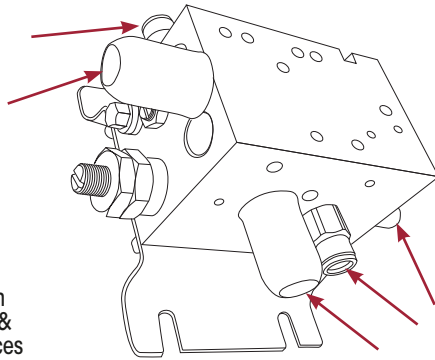

Figure 8: Check for Signs of Contamination
4. Release pressure again and remove hoses from LACV and inspect for signs of moisture, dirt, dust or sludge. Damage caused by internal contamination is irreparable. The cause of the contamination will need to be identified and rectified, and the LACV will need to be replaced. Refer Figure 8.